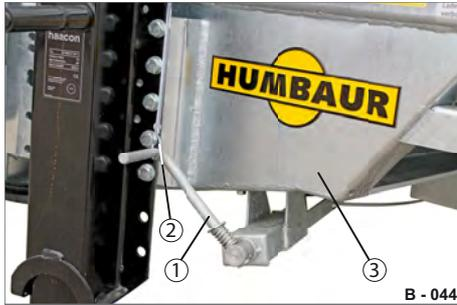

Fig. 45 Screw parking brake, manual
- ▶ Release the hook (Fig. 45/2) from the crank (Fig. 45/1).